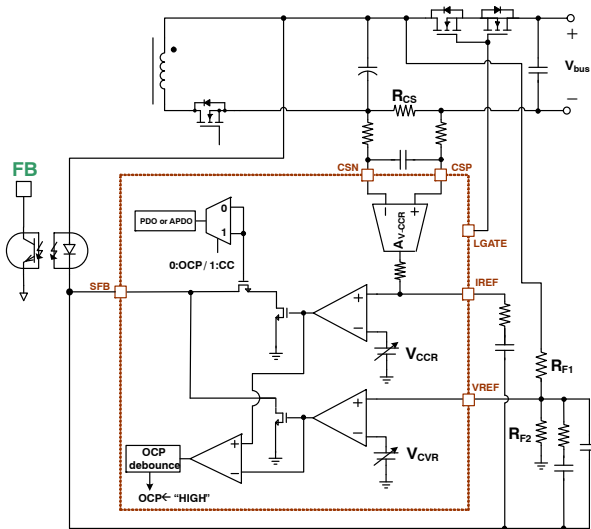
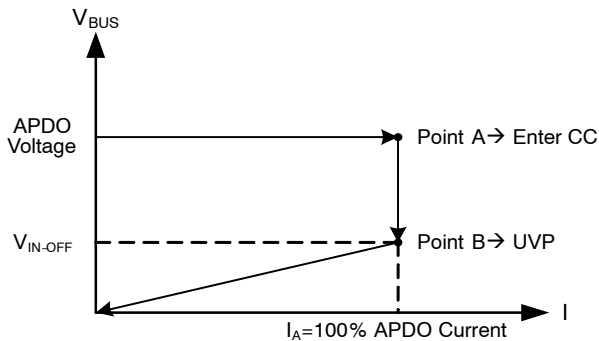

Figure 29. Voltage and Current Sensing Circuits
Figure 30. APDO CC Operation
In order to regulate adaptive output voltages, the constant voltage control (CV) is implemented. The output voltage is sensed through an external resistor divider. The sensed output voltage is connected to the VREF pin, and it is input the non-inverting input terminal of the internal operational amplifier. The inverting input terminal is connected to the internal voltage reference (V_{CVR}) which can be adjusted according to the requested output voltage. The amplifier and an internal switch operate as a shunt regulator, and the output of the shunt regulator is connected to the external opto-coupler via SFB pin. To compensate output voltage regulation, typically, two capacitors and one resistor are connected between SFB and VREF pins as Figure 29. The output voltage can be derived as calculated by the Equation 1, and the ratio of the resistor divider is 10. The reference (V_{CVR}) for the output voltage is generated by a 10-bit DAC. The minimum resolution is 20 mV to meet PD3.0 compliance spec.
Constant current (CC) control is enabled during USB PD contracts. When CC mode is enabled, the supply will foldback the output voltage as the load increases in order to maintain a fixed output current as shown in Figure 30. Output current is sensed via a current-sense resistor RCS, which is connected between the CSP and CSN pins. The sensed signal is internally amplified, and this amplified voltage is connected to the non-inverting input of the internal operational amplifier. Similar to the constant voltage amplifier circuit, it also plays a role as a shunt regulator to regulate the constant output current. In order to compensate output current regulation, one capacitor and one resistor are connected between the IREF and SFB pins as shown in Figure 29. The constant output current can be calculated using Equation 2. 5mΩ is typically used for the sense resistor.